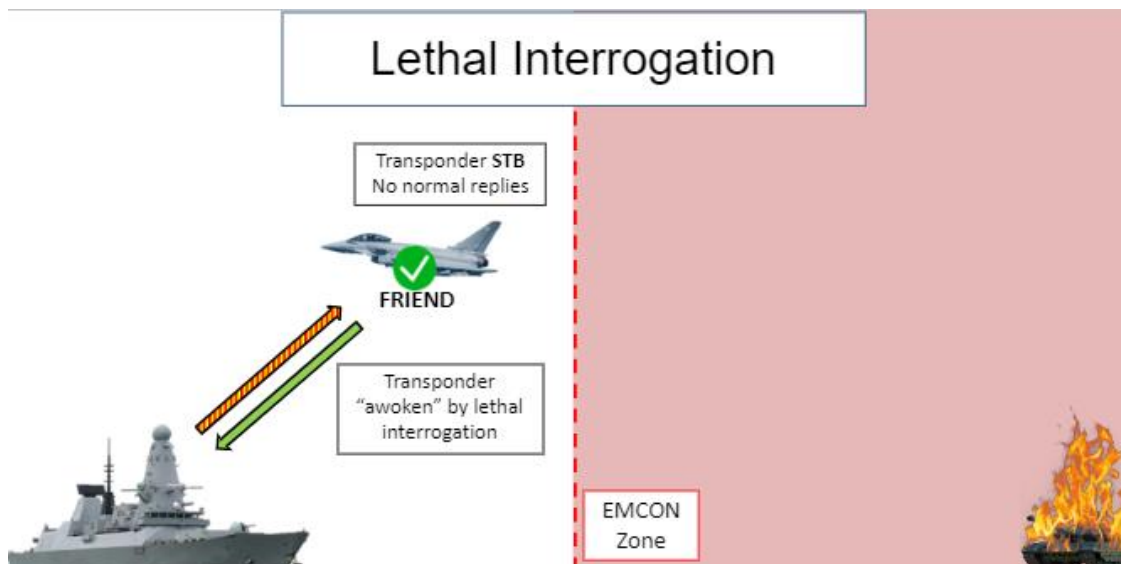

Figure 2 Lethal Interrogation Wake up
21. **Lethal Interrogation** Historically, aircrew may have turned transponders off in operationally sensitive areas. However, this meant there was an increased risk of forgetting to turn them back on when returning from the mission. Without IFF replies, this could cause a blue-on-blue incident. As part of an engagement sequence the Transponder can be in Standby with M5 selected on. On return from the Emission Control (EMCON) zone, defending friendly forces can transmit a Lethal Interrogation "a wake-up pulse" and the transponder in standby would reply. Hence preventing a possible blue-on-blue incident. (See Figure 2).